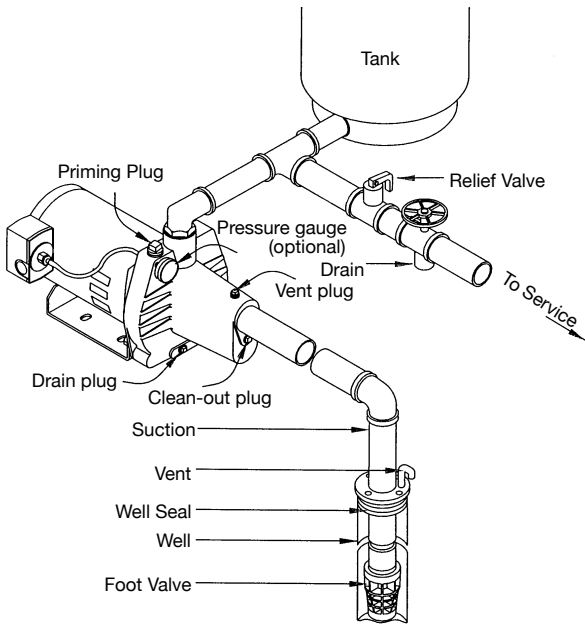

Fig. 2a SHALLOW WELL (WITH FOOT VALVE)
- d) **Service Line:** The service line should be connected as shown in Fig. 2a, b, c or d. The size of the service line required is governed entirely by the amount of water needed and the length of the pipe. The pipe selected should be large enough so that the friction loss (determined from Table 2, Friction Loss Chart) will never exceed 20 ft. (6m) head.